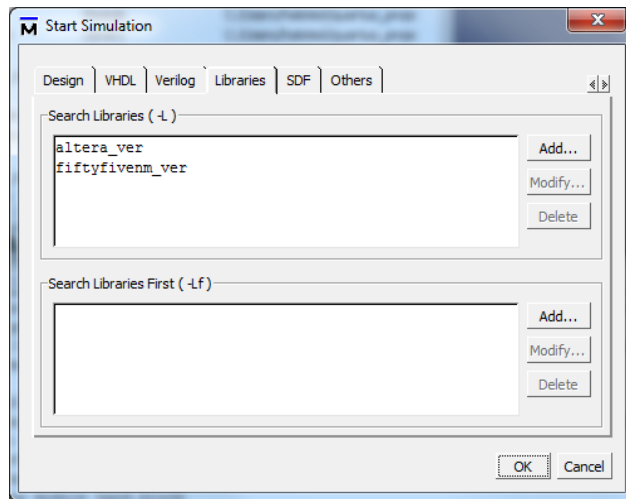

Figure 12. Selecting the libraries
- Next, click the **Libraries** tab in the *same* Start Simulation dialog box. Click the **Add...** button to the left of the Search Libraries (-L) pane. A Select Library dialog box will pop up. Select the down arrow ▼ and scroll down through the list of libraries. Select **altera\_ver** and **fiftyfivenm\_ver**, as shown in Fig. 12.